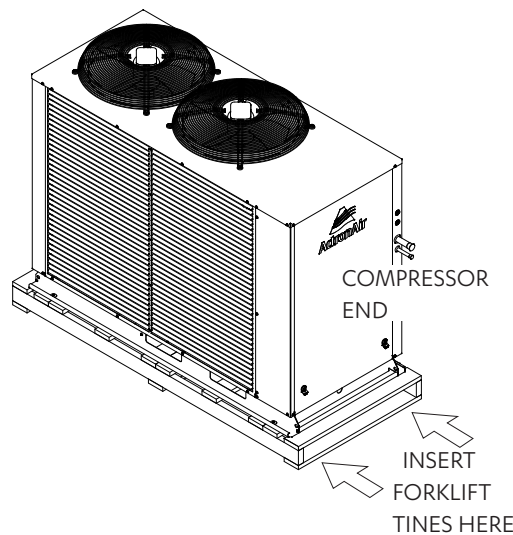

FIG. 2
1. To move the unit around with a forklift, insert the fork tines through the pallet, as shown in Fig. 2.